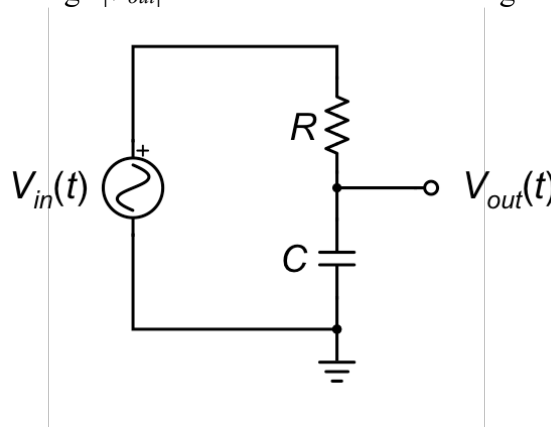

Figure 1 – The low-pass filter circuit.
In this portion of the lab, you will construct the RC circuit shown in Figure 1. You will then measure the amplitude of the output voltage $|V_{out}|$ as a function of the driving frequency f .
2. Construct the circuit in Fig. 1 using $R = 2 \text{ k}\Omega$ and $C = 0.01 \text{ }\mu\text{F}$. Use the Extech handheld DMM to check the resistor before you put it in your circuit.